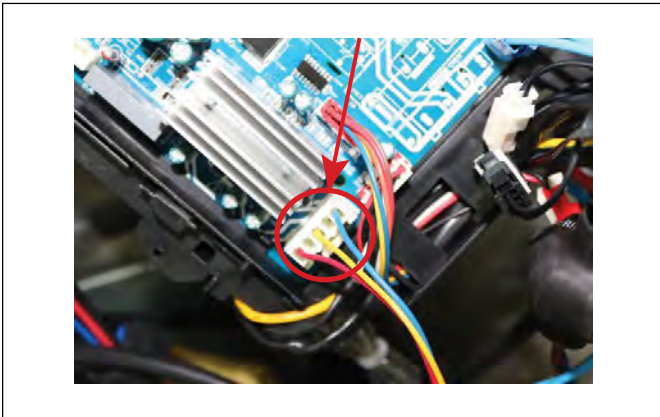

Figure 87
3. Remove the screw of the coil (Fig. 87, pos.3) and then remove the coil.
4. Detach the welded parts (Fig. 87, pos.4) of reversing valve and pipe.